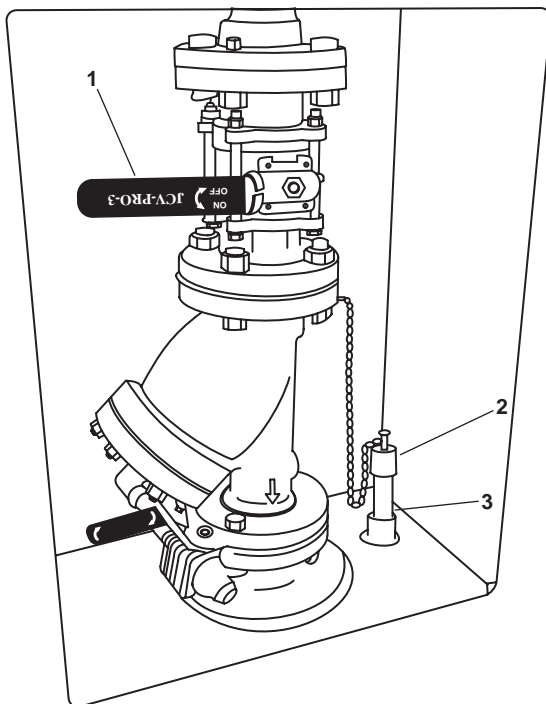

Figure 2. Engine Room Water Washdown Station
5. OPEN WWS-1 (figure 2, item 1), located in the main deck vestibule, starboard side, to activate the Engine Room Water Washdown System (ERWWS).